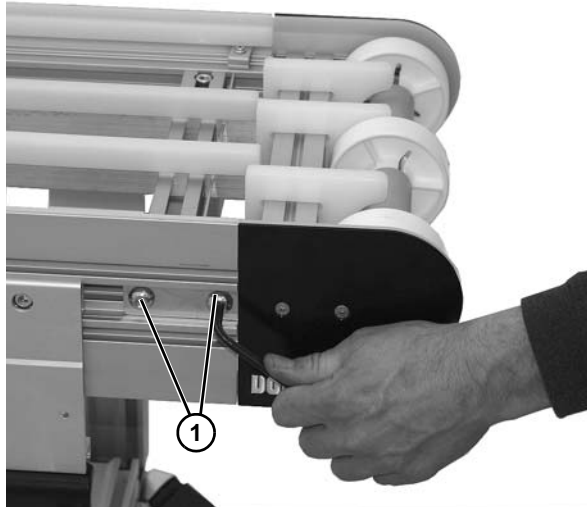

Figure 80
2. Loosen the two socket head screws (Figure 80, item 1). Repeat on opposite side.